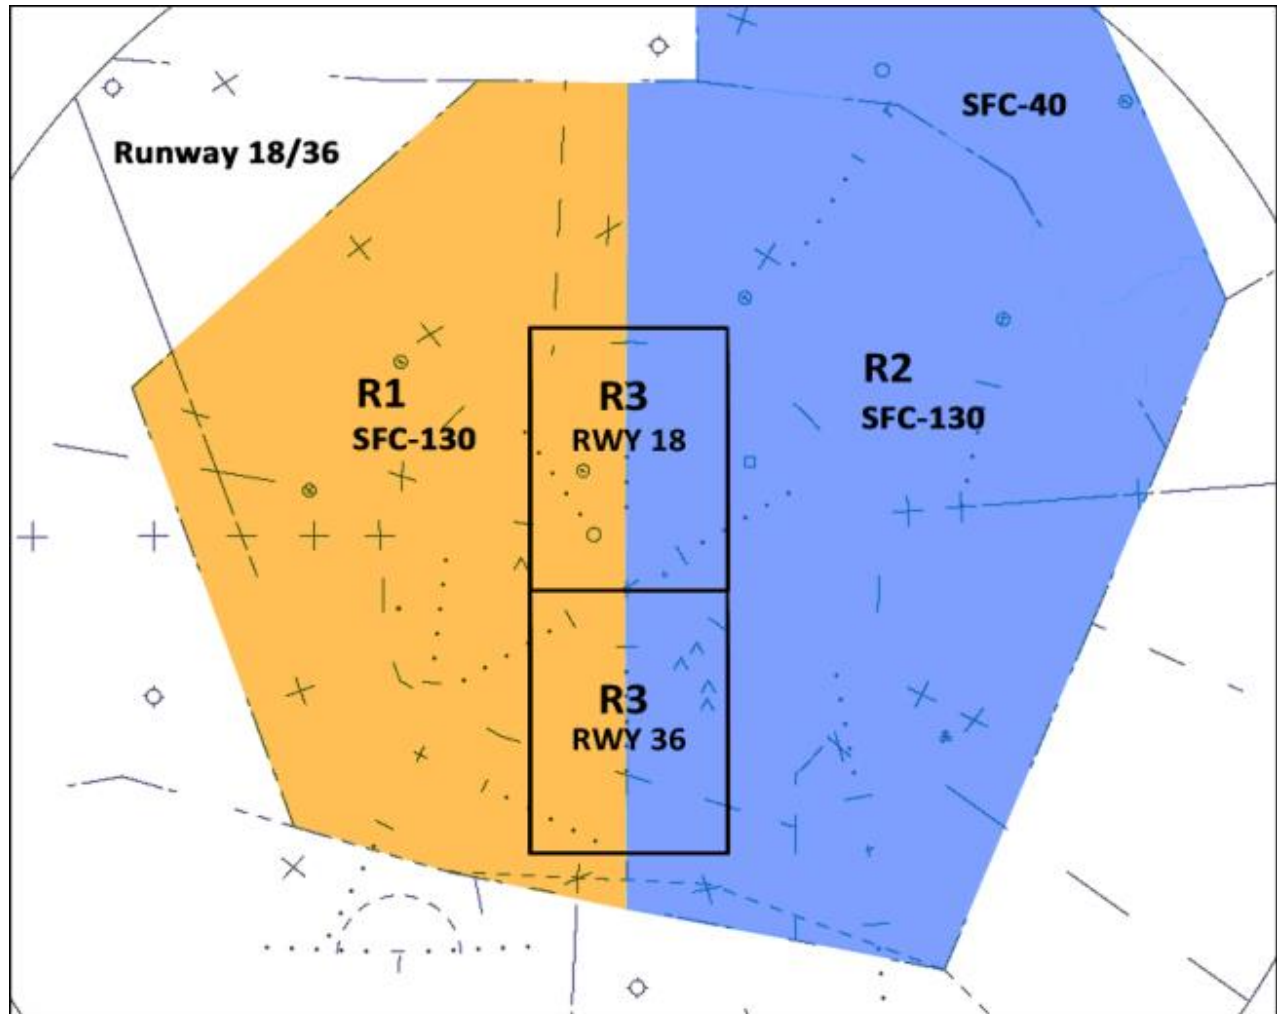

Figure J-3
- 1) R1 (G) – R1 is the west feeder position as depicted in figure J-3. The airspace extends from the surface to the upper limits of our approach airspace.
- 2) R2 (S) – R2 is the east feeder position as depicted in figure J-3. The airspace extends from the surface to the upper limits of our approach airspace.
- 3) R3 (X) – R3 is the final position as depicted in figure J-3. The airspace extends laterally 7NM either side of the final approach course out to a 20 NM final. The airspace extends vertically from the surface to 6000 MSL.